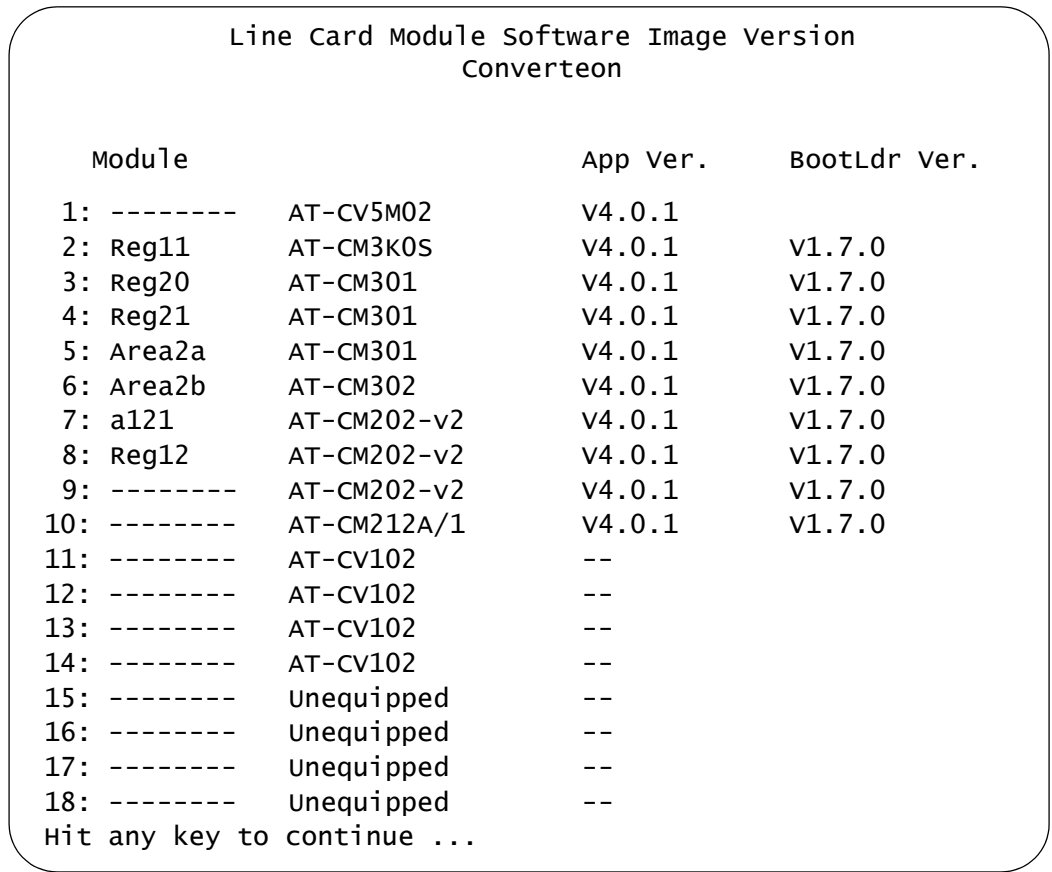

Figure 85. Line Card Module Software Image Version Window
3. Select **Image Version**. An example of the Line Card Module Software Image Version window is shown in Figure 85 on page 208. This window is for viewing purposes only.